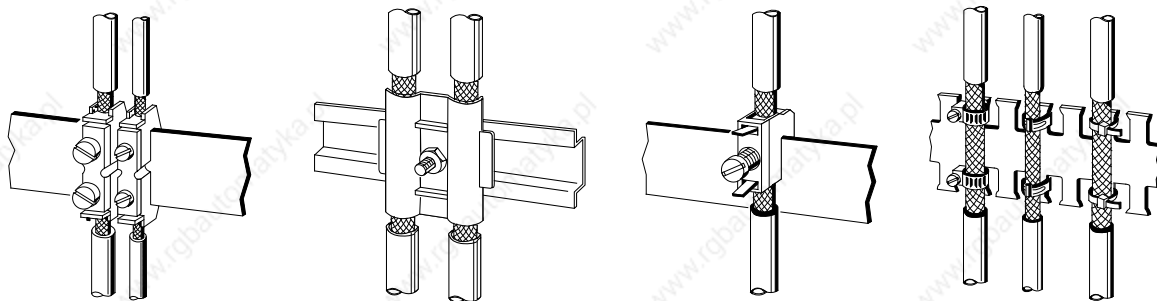

Figure 3-36. Fixing Shielded Cables with Various Types of Cable Clamps
- Use metal cable clamps for fixing the braided shield. The clamps have to enclose the shield over a large area and make good contact (see Figure 3-36).